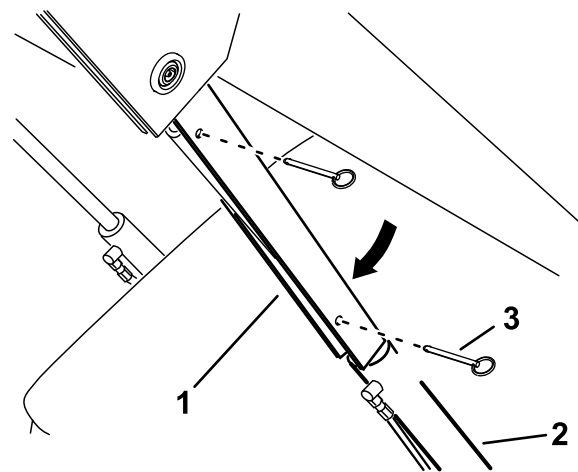

Figure 36
5. Slide the cylinder lock over the lift-cylinder rod (Figure 36).